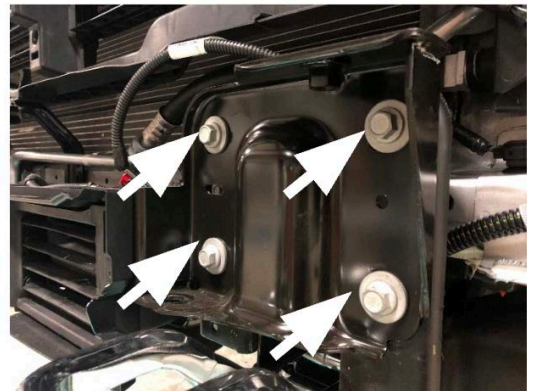

Figure 14.
13. Use a 15mm socket wrench to take four (4) bolts holding the mounting plates to the frame horns. Figure 14.